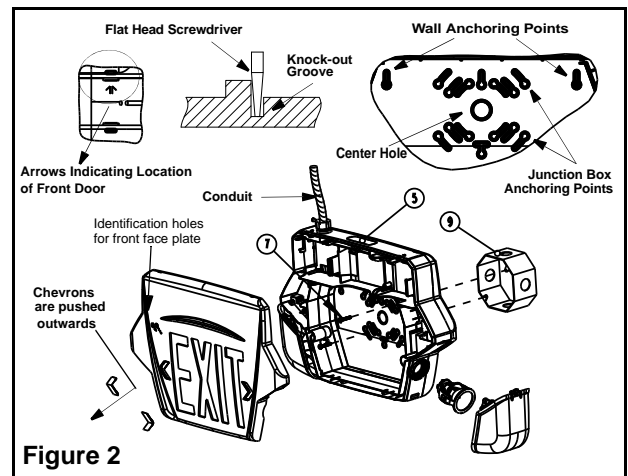
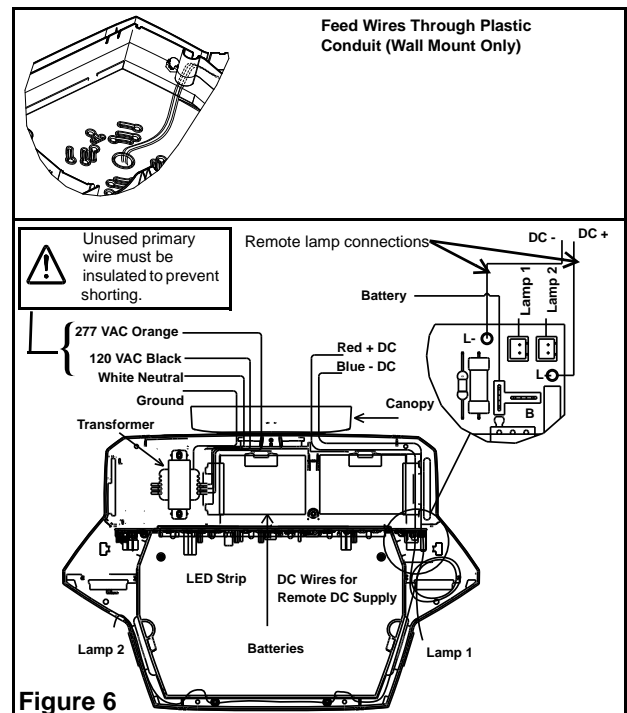

Figure 2
Figure 6
3. Remove face plate screws (only for some models). Remove the combo front door using a coin or a screwdriver at the top or bottom of the door. Arrows on the frame point towards the front door (See Fig. 2).
4. Determine the mounting position (wall or ceiling). Note: a canopy(6) is required for ceiling mount.
No canopy required. Remove the battery(s) with wires. With the help of flat head screwdriver, knock out the proper hole pattern on the back cover, including the center hole, to mount to a standard junction box as well as the two wall anchoring points (See Fig. 2). Install means to anchor unit in line with "Wall anchoring points". Feed the AC supply leads (and DC leads for remote lamps if applicable) around inside the housing, through the plastic conduit and out through the center hole and make the proper connections (See step 5 and Fig. 6). Unused primary wire must be insulated to prevent shorting. Feed the excess wire into the junction box. Secure the back plate to the wall at wall anchoring points using wall mount screws(16), then to the junction box using the junction box screws(7). Proceed to step 6.
Remove knock-out for the conduit entry located on the top of the central housing (See Fig. 2).
- Remove the appropriate chevron(s) on the exit door by holding sign with both hands. Push chevrons from the inside with thumb (See Fig. 2). You will need to unsnap the diffuser panel to do so.
- Connect battery "T Connector" to PCB ("B" connection) (See Fig. 6).
- Remote lamp(s) connection : Feed external DC+ & DC- wires through unit and connect to internal wires using wire nuts provided (See Fig. 6).
- Reinstall combo door(s). Fasten screws (only for some models). Note: The front plate with holes must be installed on the front side (see Fig.2).